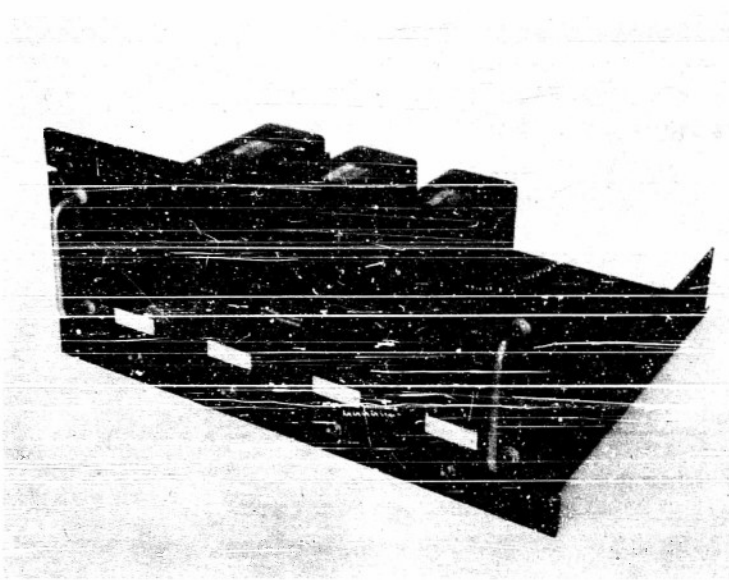

Figure 9 - Low Pass Filter Chassis and
2.7 Low Pass Filter Chassis See Figure 9
2.8 Low Pass Filter See Figure 9